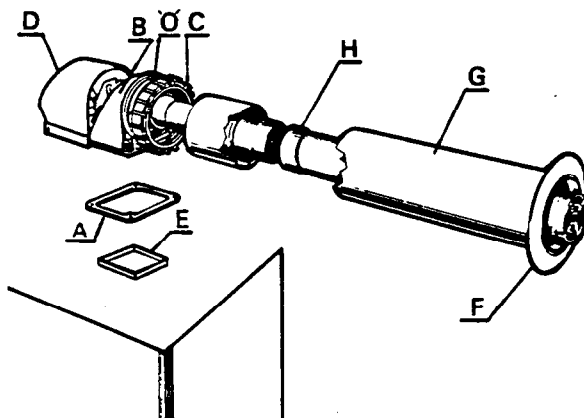
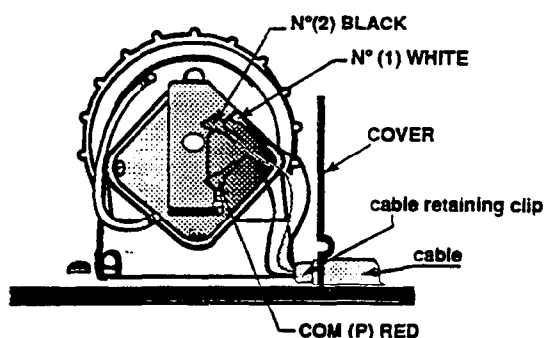

Fig. 25
Fig. 26
- Peel off protective paper from adhesive side of cork gasket (A) place on mating side of flue turret (B) lining up with four clearance holes, press together.
- Assemble second part of flue duct (H), push fit.
- Slide locking ring (C) and 'O' ring over plastic air duct.
- Slide air duct over flue duct, engage end of flue duct into terminal and locate air duct into turret (B).
- Slide 'O' ring along air duct (C), to contact with the face of the turret (B). Locate lugs on locking ring (C) between lugs on flue turret (B). Push together and turn to lock.
- Position square channelled rubber gasket (E) on the flue hood outlet of the boiler, channel facing downwards.
- Pass the flue assembly through the wall and seat turret (B), onto the flue outlet, secure with 4 screws provided.
- Fit wall plate (F) provided with mastic sealing ring over air duct to structure.
- Do not fit plastic turret cover 'D' until electrical connections to the pressure switch have been made (see fig.26).
- Push spade terminals onto tags COM (P) No (1) and No (2)
- Fit turret cover (D) (fig.25) ensuring that both the air tube and cables are not trapped. Ensure that the cable retaining clip is positioned inside of the cover as shown, (see fig. 26).